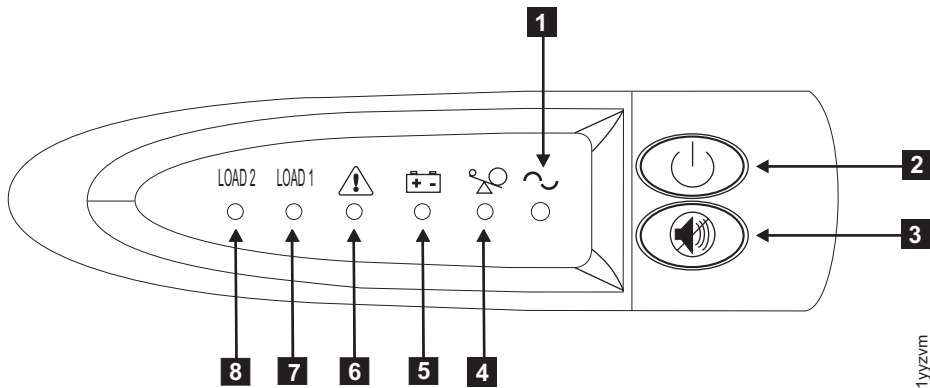

Figure 34. Power switch and indicators of the 2145 UPS-1U
11. Press and hold the on/off button **2** for approximately two seconds. The front panel indicators cycle through a startup sequence while the 2145 UPS-1U conducts a self-test; see Figure 34.